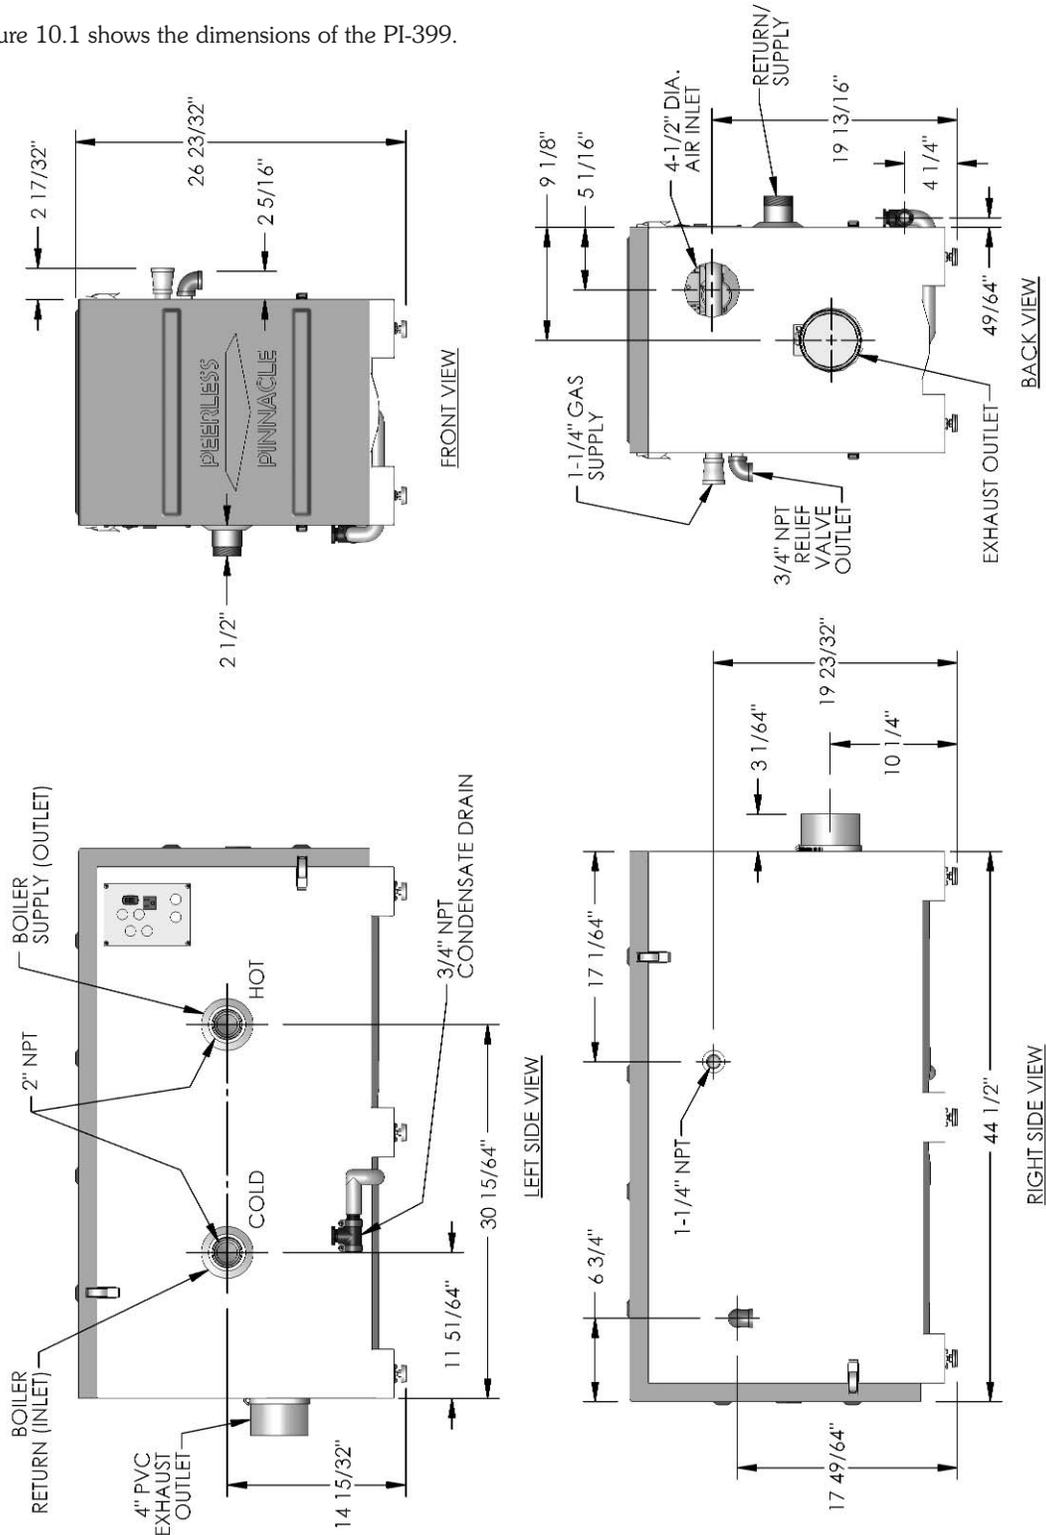

Figure 10.1: PI-399 Dimensions
1. Figure 10.1 shows the dimensions of the PI-399.